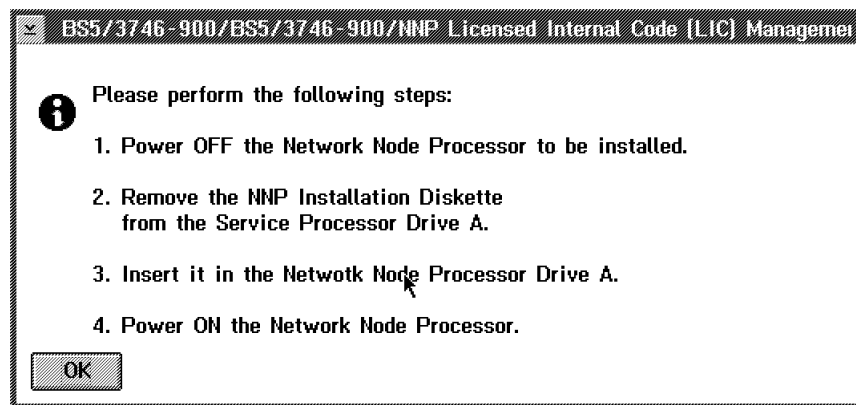

Figure 1-23. NNP-A Licensed Internal Code Management
12. \_\_\_\_ When the process is completed, record the following procedures listed on Figure 1-23, then click on **OK**.